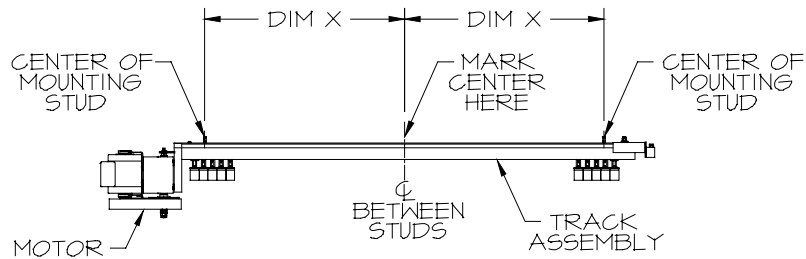

FIG. 4
- **Measure and mark center of Track Assembly** between the two Mounting Studs (Figure 4).
- **Measure** from center of Track Assembly to center of a Mounting Stud. This is Dimension X (Figure 4).